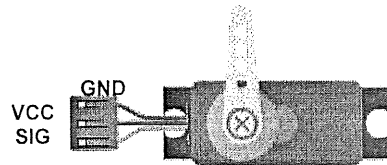

Figure 5: Servo Motor
- iii. Produce a diagram how the servo motor is connected to Pi Pico in program. Use Figure 5 for servo reference for connection (2 marks)